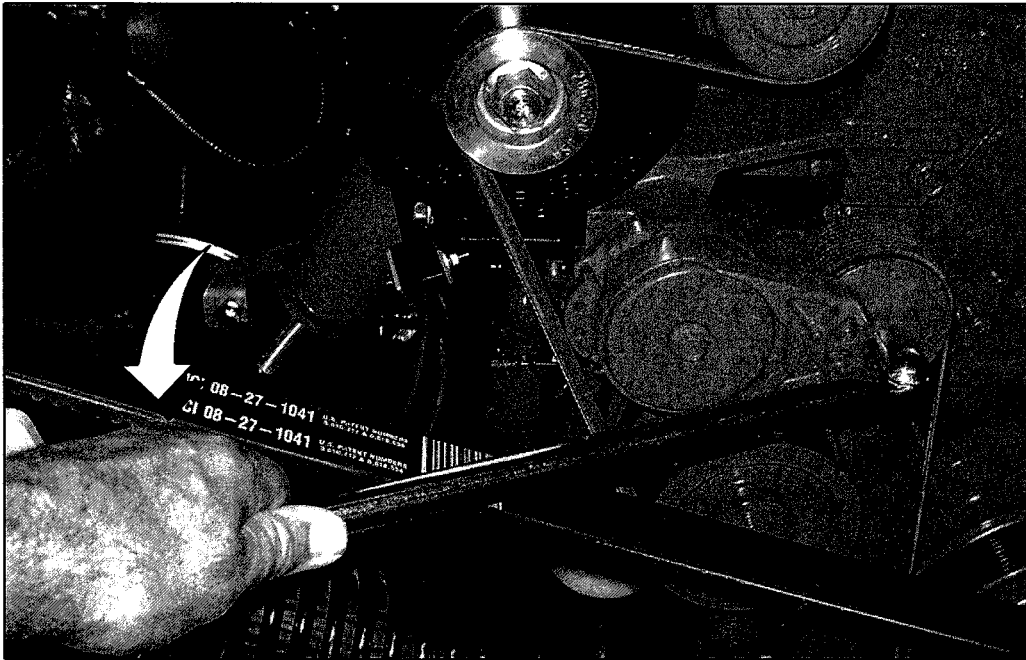

Figure 4.
8. Locate and orient the ratchet in the engine belt tension clutch port. Using a ratchet and controlled force, carefully apply pressure to offset the clutch creating slack of the engine belt (refer to Figure 4). Have a second person carefully remove the engine belt from the pulley.